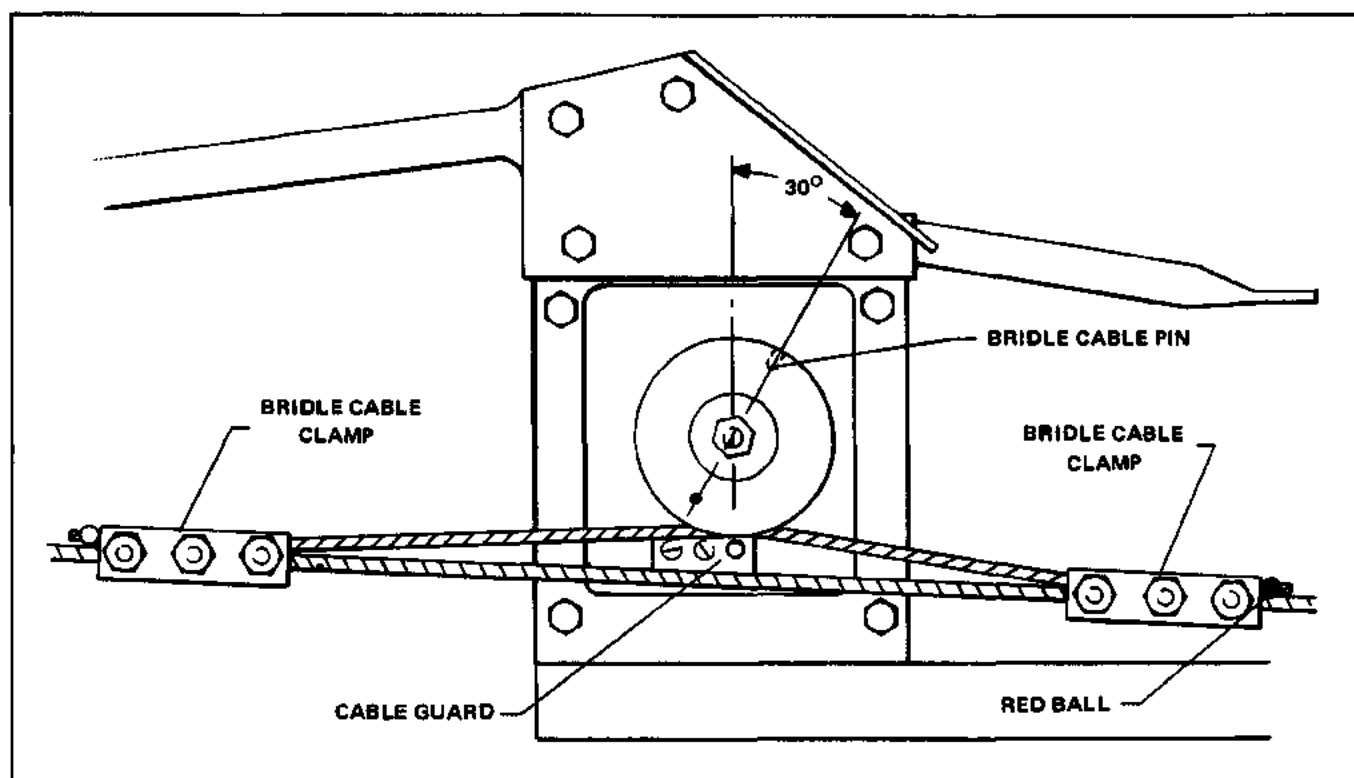

Figure 3-31. Pitch Servo Installation, PA-34-200T
#### 3-114. INSTALLATION OF PITCH SERVO. (PA-34-200T) (Refer to Figure 3-31.)
- e. REFER TO FIGURE 3-9 AND CHECK THAT THE CONTROL CABLE TENSION (Z) IS ADJUSTED TO  $40 + 5 - 0$  POUNDS (WITH DOWN SPRINGS DISCONNECTED) PRIOR TO ATTACHING THE BRIDLE CABLE CLAMPS. Ascertain area on cable where clamp attaches is clean, dry and free of all lubricants and anti-corrosive additives. Attach the bridle cable to the stabilator control cable. The bridle cable is drawn to the right stabilator control cable and attached with clamps at the previously painted locations on the control cable. The longest portion of the bridle cable or the end with the red ball extends aft. (Refer to Figure 3-31.) (Should the balance cable not be painted, position the control wheel full forward and with the servo disengaged, position the capstan pulley so that the bridle cable pin is aligned as shown in Figure 3-31.) Adjust the bridle cable clamps so the bridle cable tension (Y) is equal to the control cable tension  $+0 - 15\%$  between the bridle cable clamps (X) as shown in Figure 3-9 without increasing the control cable tension from the bridle cable clamps outward. At no time shall the bridle cable